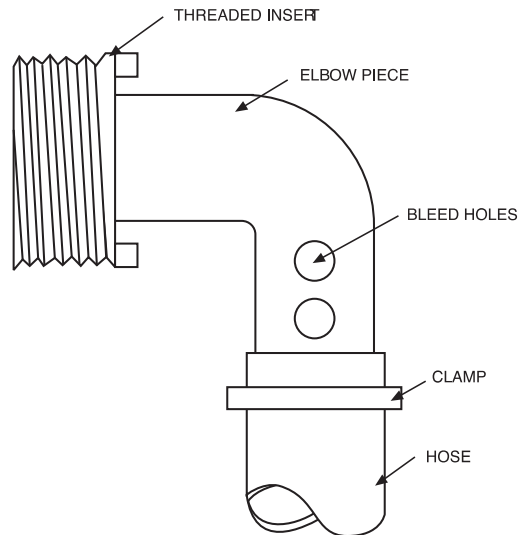

FIGURE 5
Height adjustment is achieved by covering more or less of the bleed holes (Fig. 5) on your elbow piece (8) with the hose (3). The more holes covered, the higher the fountain and vice versa.
Height adjustment is achieved by covering more or less of the bleed holes (Fig. 5) on your Elbow Piece (6) with the hose (3). The more holes covered, the higher the fountain and vice versa. If your fountain is still not as high as desired, use the threaded plug (11) to plug one of the other inlets.